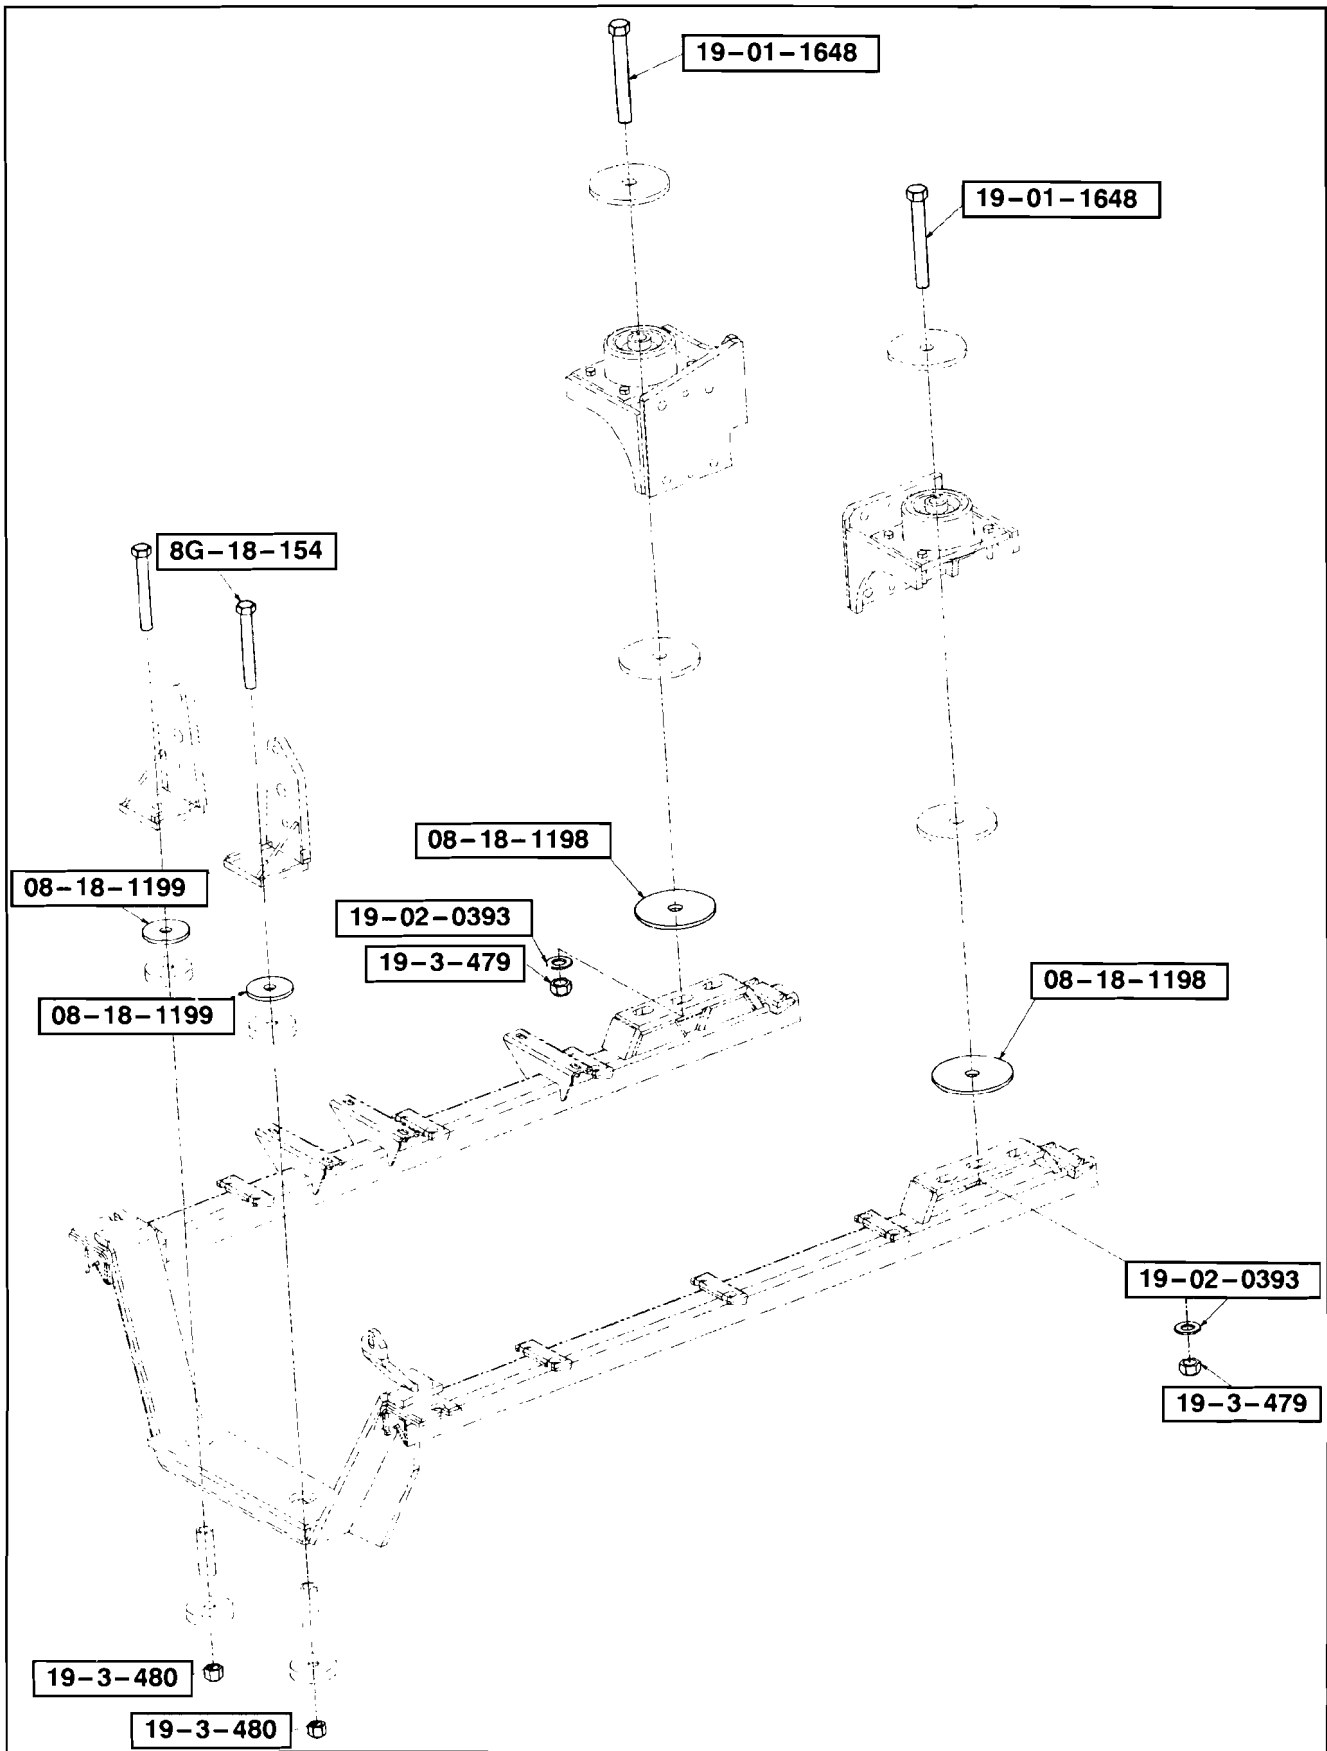

Figure 1.
3. Locate the engine cradle mounting hardware shown in Figure 1 ( four locations ).
4. Remove and discard the existing locknuts only from the four locations shown in Figure 1.
**Dump the air from the tag axle suspension and raise coach to desired height. Position jackstands at the front and rear frame support points, according to Figure 1, to ensure that the coach is securely supported before attempting work underneath the coach.**